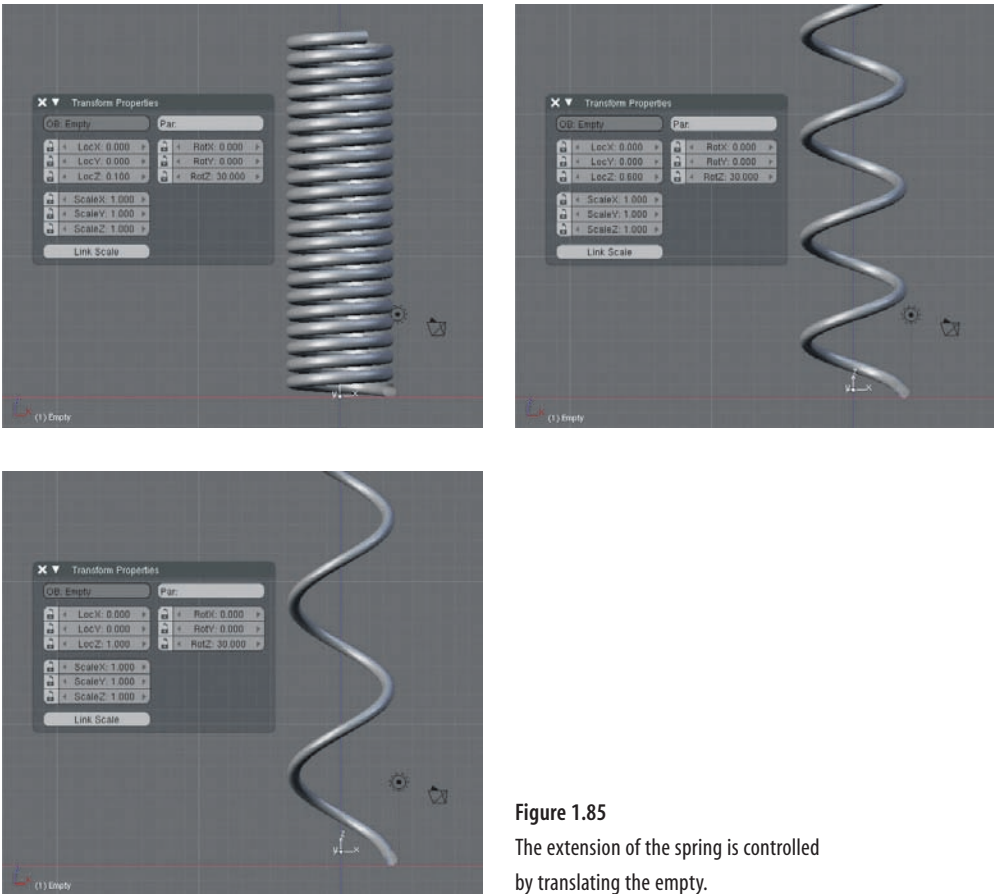

Figure 1.85
8. Go back to the Array modifier on the mesh. Set Count to 250. Your spring is now fully formed, and you can control its degree of extension by translating the empty along the Z axis, as shown in Figure 1.85. The most natural range is to have the empty between the 0.1 and 1 points on the Z axis. You can see and set the Transform Properties for the empty in the 3D viewport by pressing the N key.